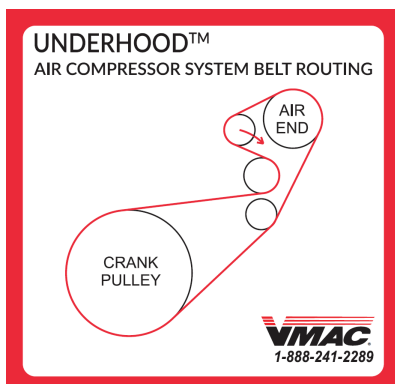

Figure 112 — Belt routing label
- ☐ Install the belt routing label in the engine compartment near the hood latch in a visible location (Figure 112).